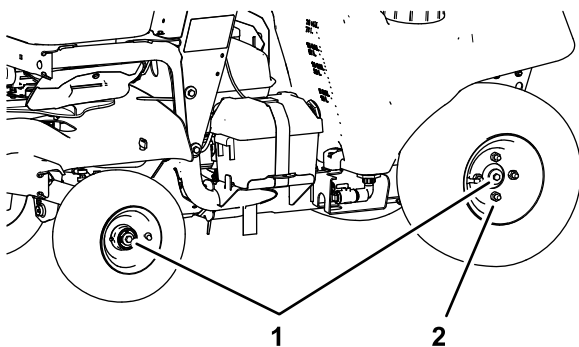

Figure 92
1. Torque the axle bolts (Figure 92) of the front and rear wheels to 43 to 52 N·m (32 to 38 ft-lb).
2. In an alternating pattern, torque the 4 wheel nuts (Figure 92) of the rear wheels to 104 to 129 N·m (77 to 95 ft-lb).